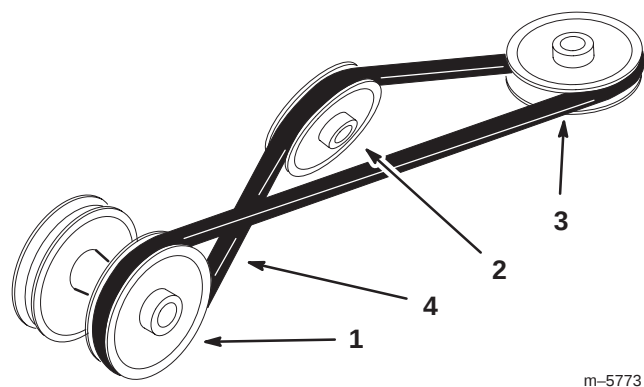

Figure 17
4. Install the bagger belt onto the drive pulley (Fig. 17).